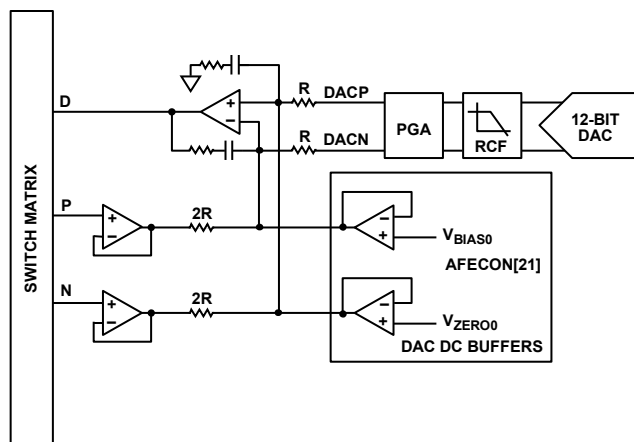
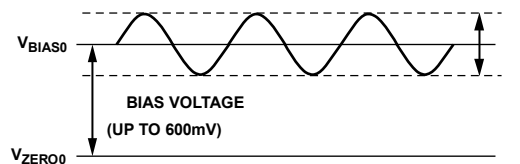

Figure 21. High Speed DAC Excitation Amplifier
Figure 22. Sensor Excitation Signal
Figure 21 illustrates the operation of the excitation amplifier and its connection to the switch matrix. There are four inputs to the excitation amplifier: DACP, DACN, positive (P), and negative (N). The high speed DAC is a differential output DAC where the positive and negative inputs feed directly to the excitation amplifier. The voltage difference between these two outputs sets the peak-to-peak voltage on the output waveform. The P and N inputs maintain the stability of the excitation amplifier by providing a feedback path from the sensor, and set the common-mode for the high speed DAC output. Under normal circumstances, the common mode is set by the  $V_{ZERO0}$  output connected to the N input. There is also an option to apply a dc bias voltage to the sensor and couple an ac signal onto this bias, as shown in Figure 22.
An option is available if the sensor requires a bias voltage between the counter and sense electrode.  $V_{BIAS0}$  sets the voltage on the counter electrode (the common-mode voltage of the high speed DAC) and  $V_{ZERO0}$  sets the voltage on the sense electrode.  $V_{ZERO0}$  must be connected to the positive terminal on the high speed TIA (HSTIACON, Bits[1:0] = 01). The dc buffers of the DAC must also be enabled by setting AFECON, Bit 21. With this configuration, a waveform can be achieved, as shown in Figure 22. The bias across the sensor is effectively the difference between  $V_{BIAS0}$  and  $V_{ZERO0}$ .
2. The DAC dc buffers must be enabled (AFECON, Bit 21 = 1). Figure 21 shows the connection of the dc buffers to the excitation amplifier. These buffers enable the low power DAC outputs to drive the required bias voltage to the excitation amplifier and the high speed TIA.